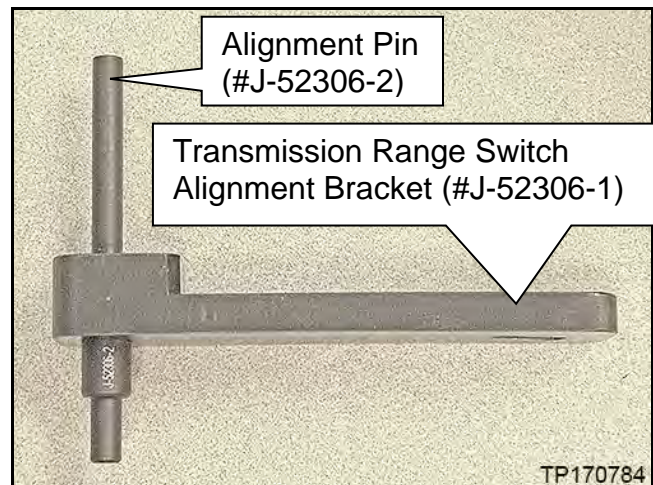

Figure 2V
- a. Install the alignment pin (#J-52306-2) into the Transmission Range Switch Alignment Bracket (#J-52306-1) as shown in Figure 2V.